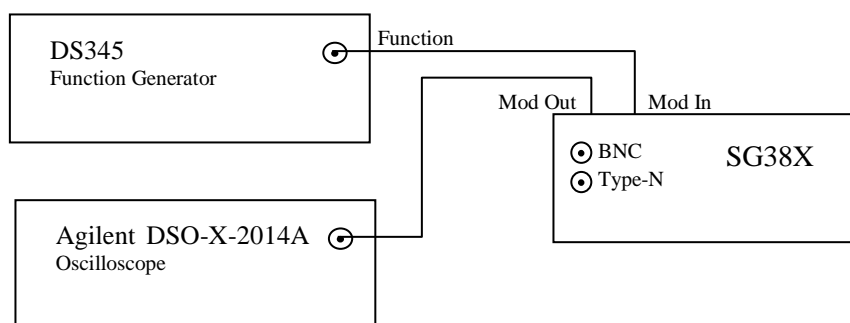

Figure 9: Setup for modulation input test.
This test verifies the operation of the modulation engine and modulation input. It does not test to any specifications. This test requires the setup shown in Figure 9
1. Connect the equipment as shown in Figure 9.